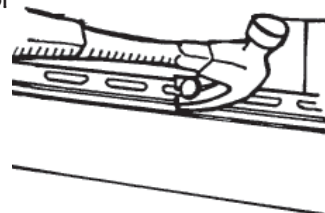

Figure 76.
- Gently bend out the upper panel. Take the nails out of the damaged panel and remove it (Fig. 76).